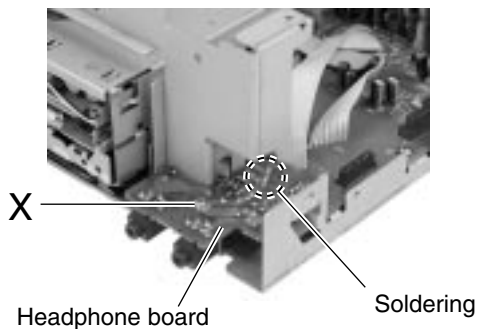

Fig.25
**■ Removing the headphone board (See Fig.25)**